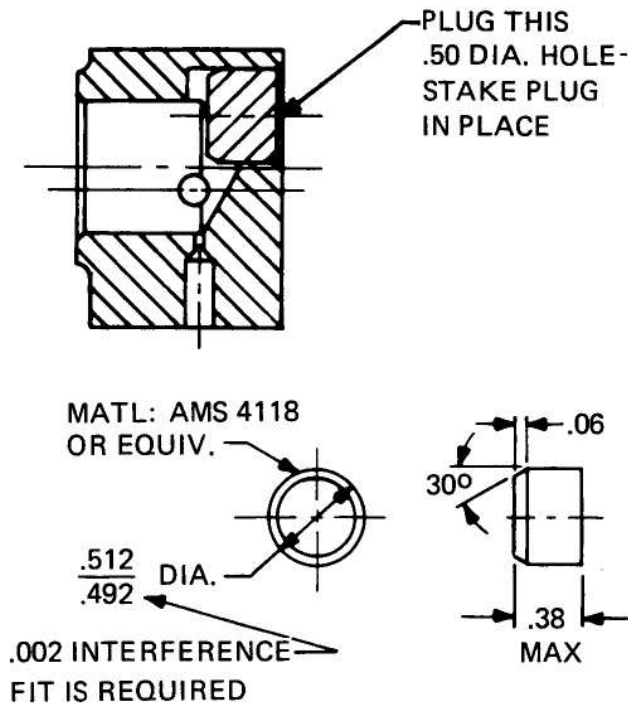

Figure 26. Plug Detail.
5. Plug 0.500 inch dia. hole in back of adapter with 0.500 dia. x 0.375 inch long aluminum bar stock. Stake securely in place. (See Figure 26)